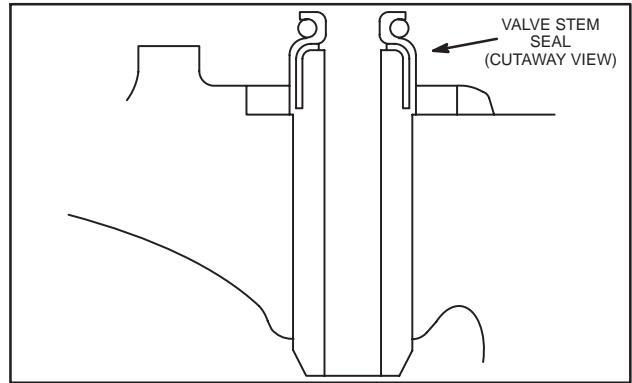

Fig. 18 – Install Valve Stem Seals
- Use a 60° cutter to narrow seat from bottom and a 15° cutter to narrow seat from top, Fig. 18.
- b. Press seal on to valve guide bushing until it bottoms, Fig. 18.